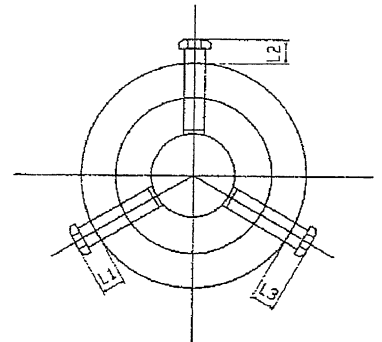

Fig. 5
- a) Slightly tighten three centering bolts in the valve spindle mounting, so that the each height of the three bolts sticking out, L1, L2, and L3 are visually adjusted to be equal each other. (As shown in Fig.5)